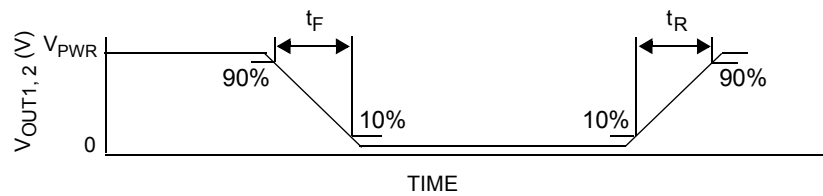

Figure 6. Output Switching Time
27. Rise Time is from the 10% to the 90% level and Fall Time is from the 90% to the 10% level of the output signal with $V_{PWR} = 14\text{ V}$, $R_{\text{LOAD}} = 3.0\text{ ohm}$. See Figure 6, page 11.